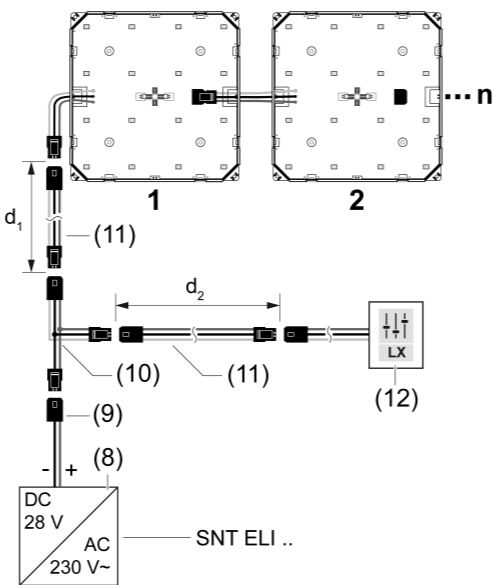

Figure 5: Electrical connection
- Connect the first LED lamp to the power supply (8) using the adapter cable (9) (Figure 5).
- Using the supply line (4), connect additional LED lamps to the output socket (5) of the first LED lamp.
- For grid installation with connectors: Fasten the supply line (4) in the retaining brackets of the connectors (7) as shown.